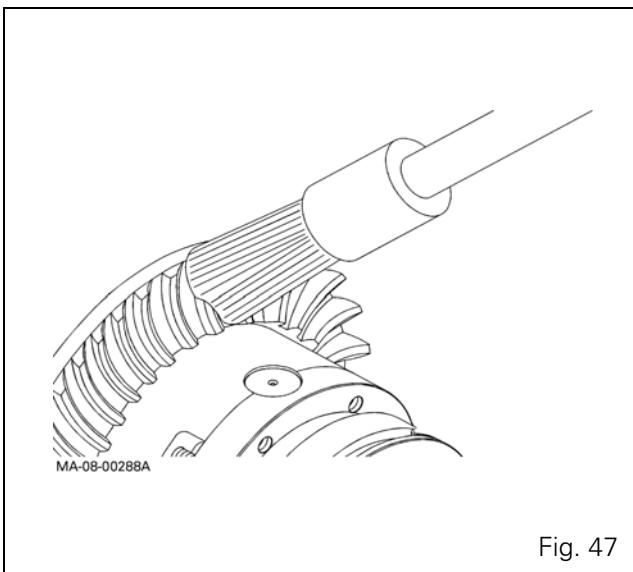

Fig. 47
52. To test the marking of the crownwheel and pinion teeth, apply a tiny amount of paint to the ring gear. This marking test must be carried out systematically on the bevel ring gear teeth and on each face (Fig. 47).